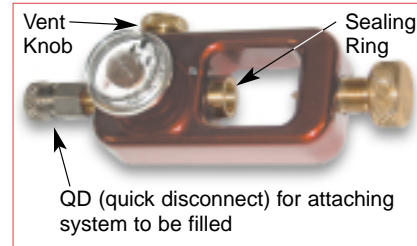
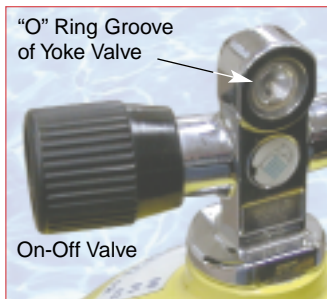

Figure 1
Figure 2
3. Carefully align the sealing ring of the Bulldog Fill Station (*Figure 1*) with the O-ring groove on the yoke valve (*Figure 2*).